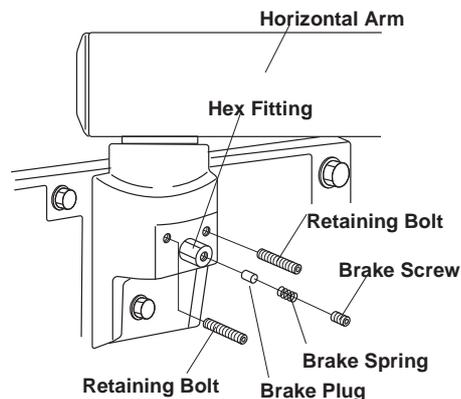

Fig.3-6 Horizontal Arm
2. Insert two retaining bolts into the upper threaded holes of the arm mounting bracket and tighten securely with a Allen wrench. **(Fig.3-6)**
3. Insert brake plug, brake spring and brake screw (M6 x 6 mm) into the threaded hole of the hex fitting located on the arm mounting bracket. **DO NOT FULLY TIGHTEN. (Fig.3-6)**